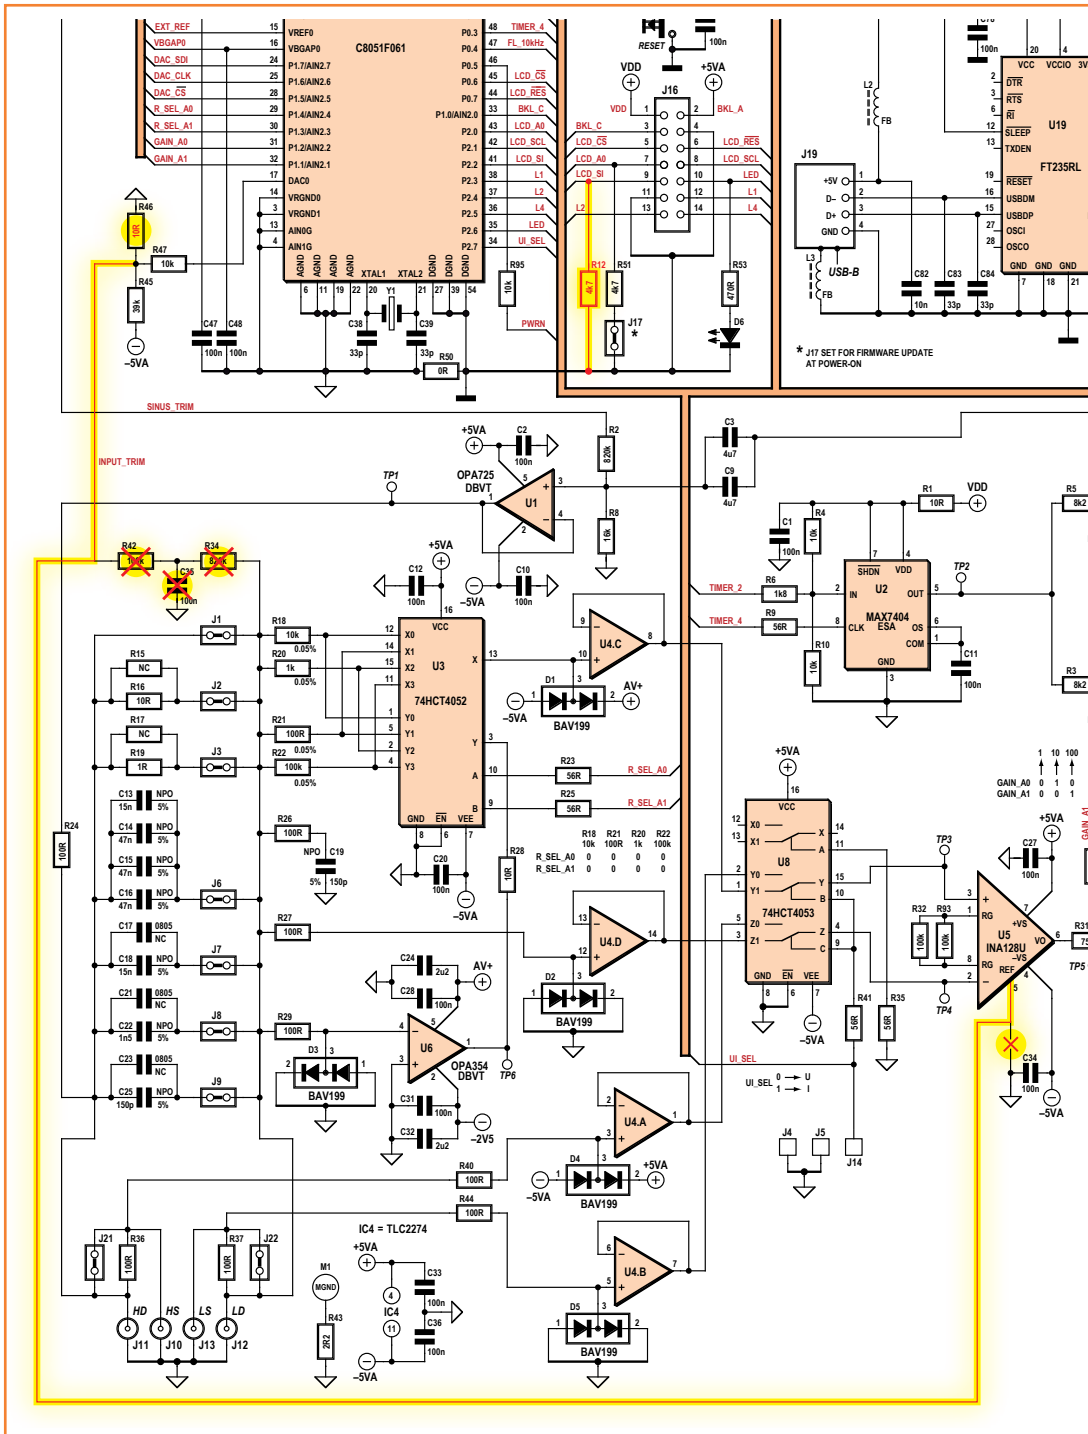

Figure 1. Partial schematic with corrections to be made to improve the 500 ppm LCR Meter.
- Modify the hardware—the best solution—to enable the input **offset voltage** compensation circuit to be adapted, and at the same time update the firmware (v. 3.0.0) along with the AU2011 program (v. 3.0.0). The software will automatically detect the hardware modification at runtime, due to the presence of a resistor on the P2.2 port line (LCD\_SI) (**Figure 1**).
The new circuit (**Figure 1**) applies the correction voltage at the output of U5 (INA128), and hence